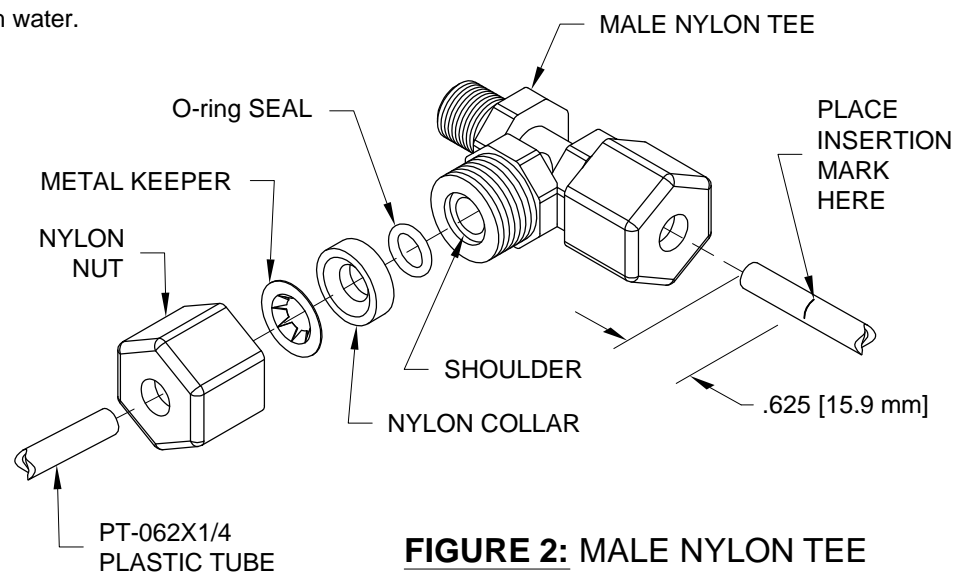

FIGURE 2: MALE NYLON TEE EXPLODED VIEW
Step 2: Place insertion mark .625 [15.9 mm] from end of tube. See Figure 2. Moisten marked end of tube with water.